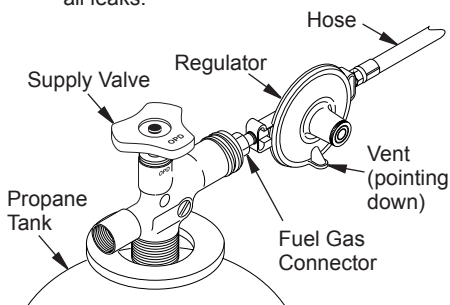

Figure 7 - Regulator With Vent Pointing Down
2. Connect fuel gas connector fitting on hose/regulator assembly to propane tank(s) (see Figure 7). Turn counterclockwise into threads on tank valve. Tighten firmly using wrench.